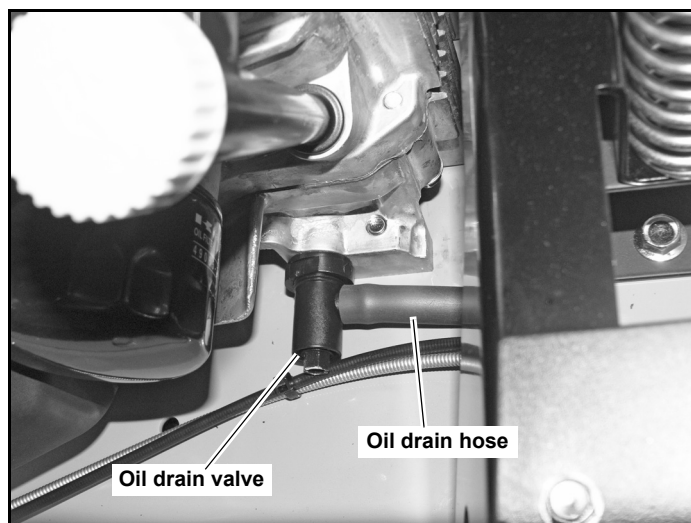

Figure 4-3
2. Locate the oil drain hose that was supplied with the machine. Be sure to clean and clear it of debris that might block the flow of the engine oil. Figure 4-3
8. Clean the oil drain hose and store it appropriately. Figure 4-3